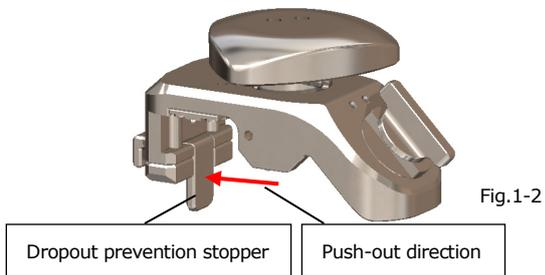

Fig.1-2
(1)-2 Push the dropout prevention stopper outward (Fig.1-2).